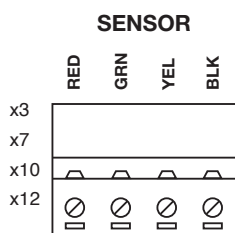

Figure 6
- Connect the four colour-coded wires to the Sensor Interface plug, X3, X7, X10 and X12 (see Fig 6).
Each spare sensing zone circuit must be terminated with a loop of cable between red-green and yellow-black. See figure 6. This will prevent the system seeing this zone as a cable break. The loop is only required if zone 1 or 2 are not connected and any subsequent zone where a MZA-EXP zone expansion card are fitted.